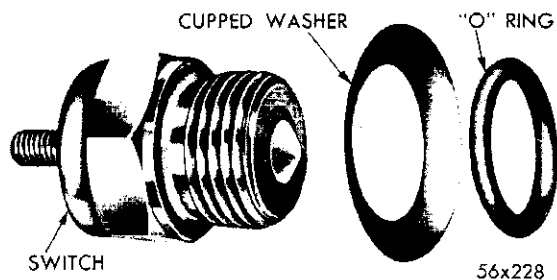

Fig. 24—Neutral Starting Switch (Disassembled)
(1) With proper control cable adjustment assured, depress the N (neutral) push button.
(2) Raise vehicle and drain approximately two quarts of fluid from transmission.
(3) Unscrew neutral starting switch from transmission case and inspect to be sure that the switch operating lever is aligned in center of switch opening in the case.
(4) Place cupped washer and "O" ring over threads of the switch (Fig. 24), then screw switch